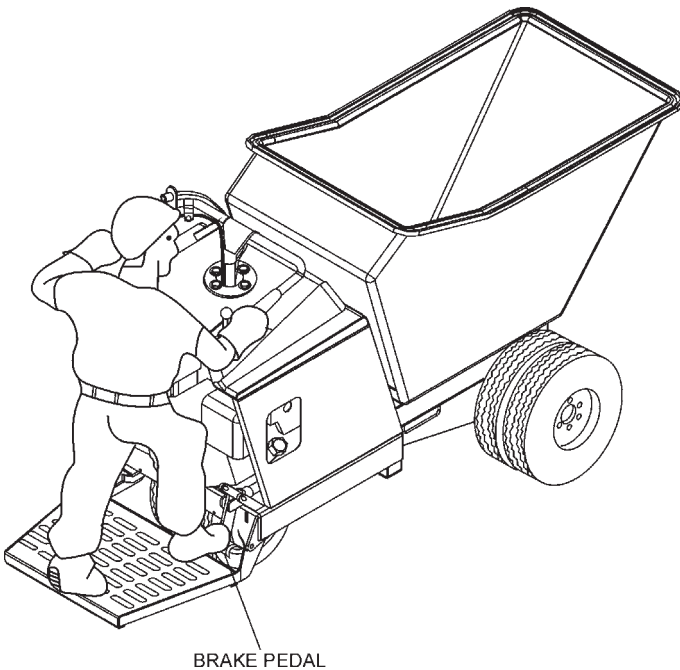

Figure 19. Brake Foot Pedal
3. With the right foot, step up and place it on the **brake pedal** (Figure 19). Gradually apply pressure to the brake pedal until the buggy comes to rest.